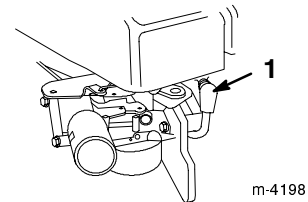

Figure 39
2. Disconnect the wire from the spark plug (Fig. 39).